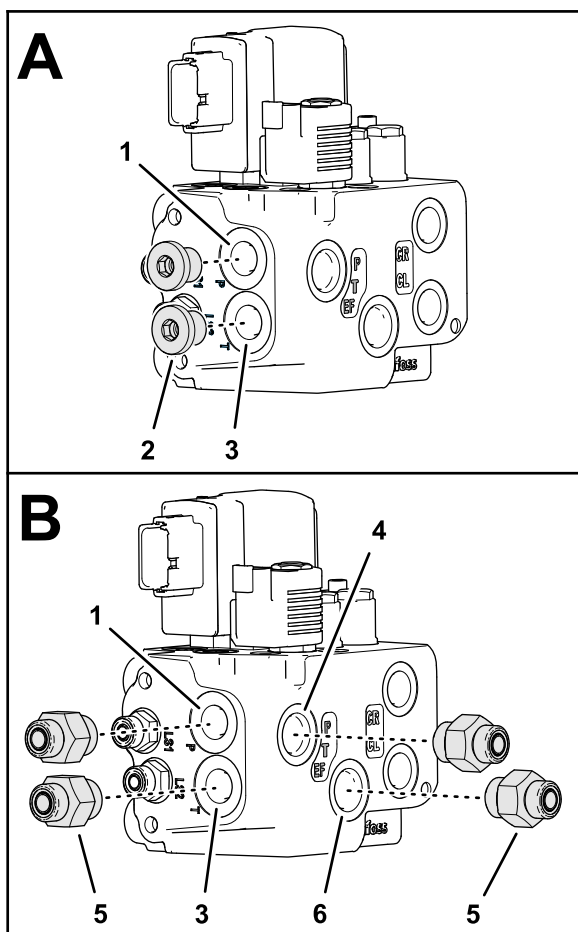
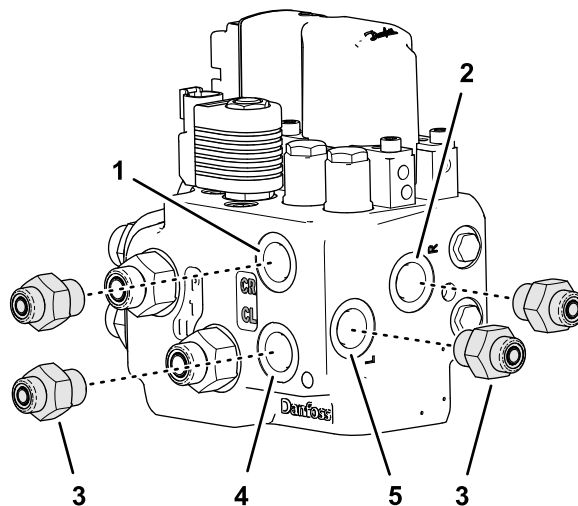

Figure 33
Figure 34
2. Remove the 2 plugs from port P and port T of the EHI steering valve (Figure 33).
3. Assemble 4 straight hydraulic fittings (-6 x 22 mm) into the valve (Figure 33) as follows:
- Port P (EF)
- Port T (EF)
4. Assemble 4 straight hydraulic fittings (-6 x 18 mm) into the EHI steering valve (Figure 34) as follows: